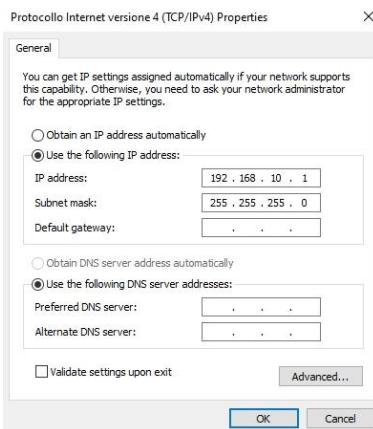

Figure 6: TCP/IPv4 settings
- 2. Set the TCP/IPv4 according to figure 6**